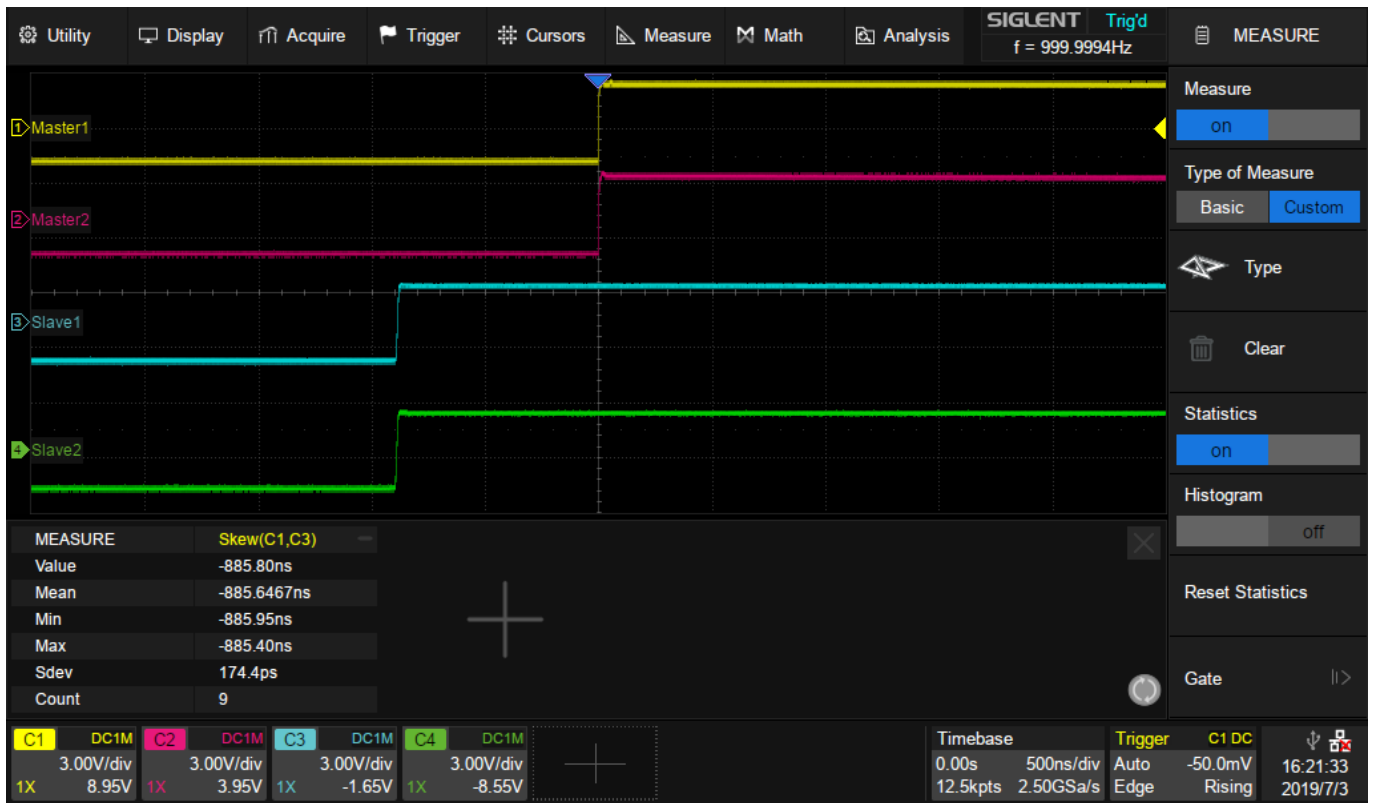

Figure 9. Measure the Skew between Master and Slave Devices
1) Turn on Synchronization on both units, **measure the Skew between CH1 and CH3**. As in Figure 9.